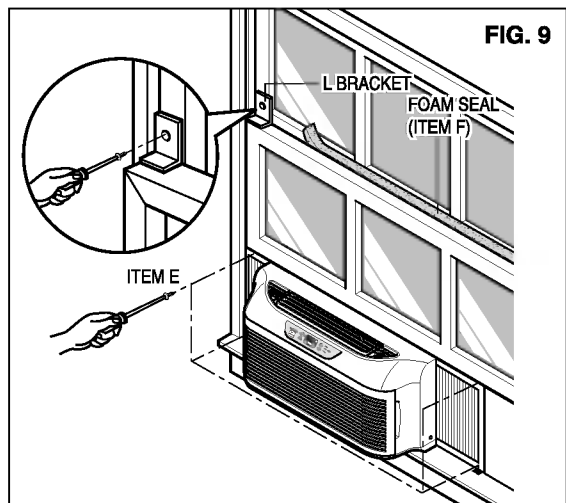

FIG. 9
Expand the curtain frames and secure them using 5 screws (ITEM E) as shown in FIG. 9.
- Cut the foam seal (ITEM F) to the window width. Stuff the foam seal between the glass and the window to prevent air and insects from getting into the room, as shown in FIG.9.